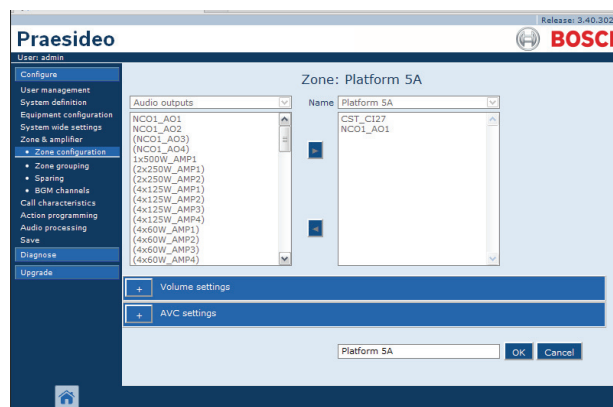

figure 46.8: Rename a zone, step 3
- 3 Click the *Rename* button to rename that zone. A screen similar to the one in figure 46.8 appears.